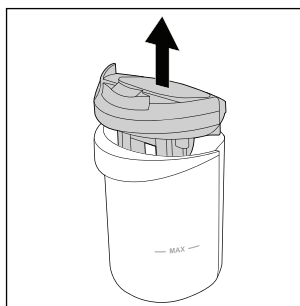

Fig. 21
- ◆ Pull the lid of the waste water tank **9** upwards out of the waste water tank **2** (see fig. 21).